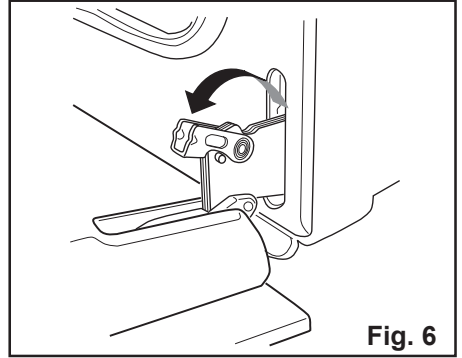

Fig. 6
3. lift and turn the levers on the two hinges (Fig. 6);